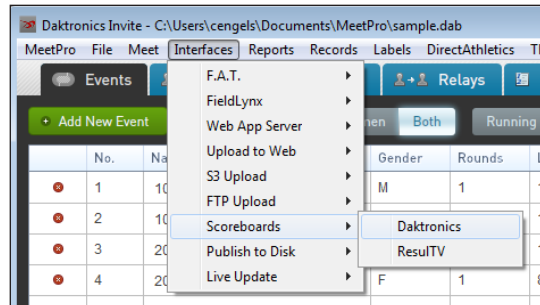

Figure 47: MeetPro Interfaces Menu
2. Go to **Interfaces > Scoreboard > Daktronics** (Figure 47).